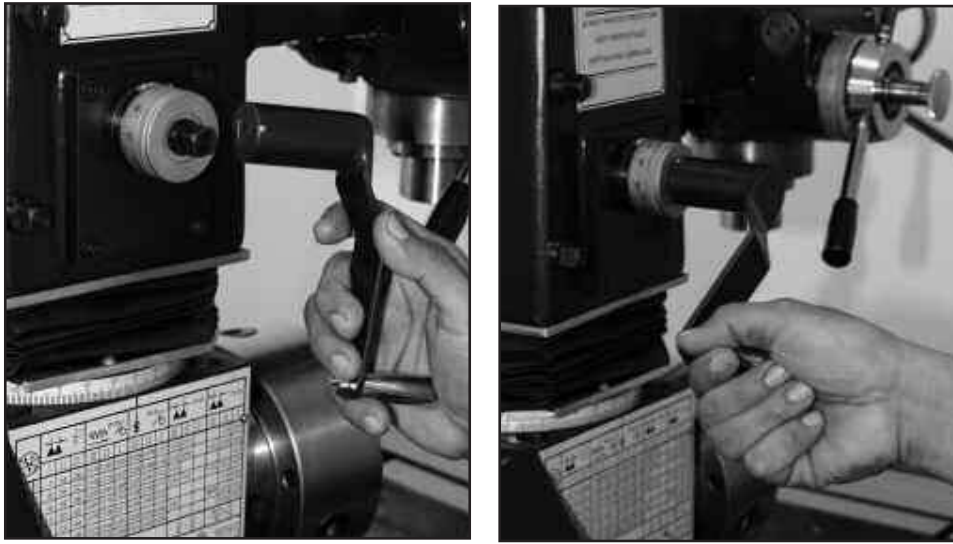

Figure 4.4 Adjusting Millhead Height
H. Height Adjustment Drive - The height adjustment drive works with the millhead crank to raise and lower the millhead. Insert the millhead crank over the stud, as in Figure 4.4, rotate clockwise to raise the millhead and counter clockwise to lower the millhead.